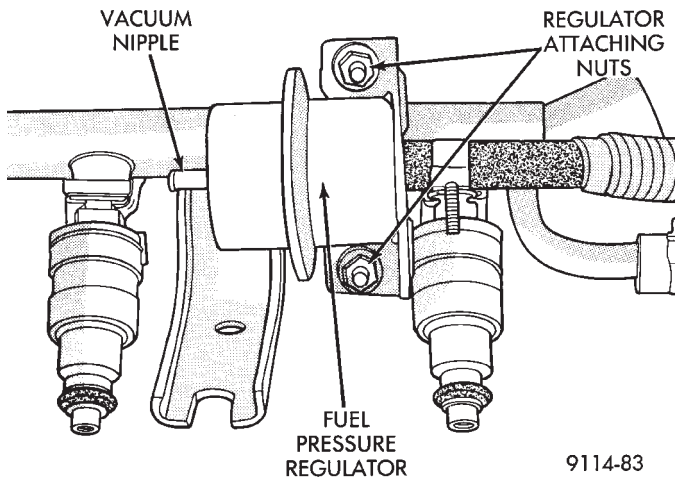

Fig. 12 Servicing Fuel Pressure Regulator
- (1) Perform fuel system pressure release procedure.
- (2) Disconnect negative cable from battery.
- (3) Disconnect vacuum hose from fuel pressure regulator (Fig. 12).
- (4) Loosen fuel hose clamp and remove fuel return hose.
- (5) Remove fuel pressure regulator mounting nuts. Remove fuel pressure regulator from rail (Fig. 12). Check O-Ring for damage. If O-Ring is damaged it must be replaced.
- (1) Lubricate O-ring with a drop of clean engine oil. Install O-ring into the receiver cup on fuel rail.
- (2) Install fuel pressure regulator mounting nuts. Tighten nuts to 7 N•m (65 in. lbs.) torque.
- (3) Connect fuel return hose to pressure regulator. Tighten hose clamp to 1 N•m (10 in. lbs.) torque (Fig. 12).
- (4) Install vacuum hose on fuel pressure regulator.
- (5) Connect negative cable to battery.